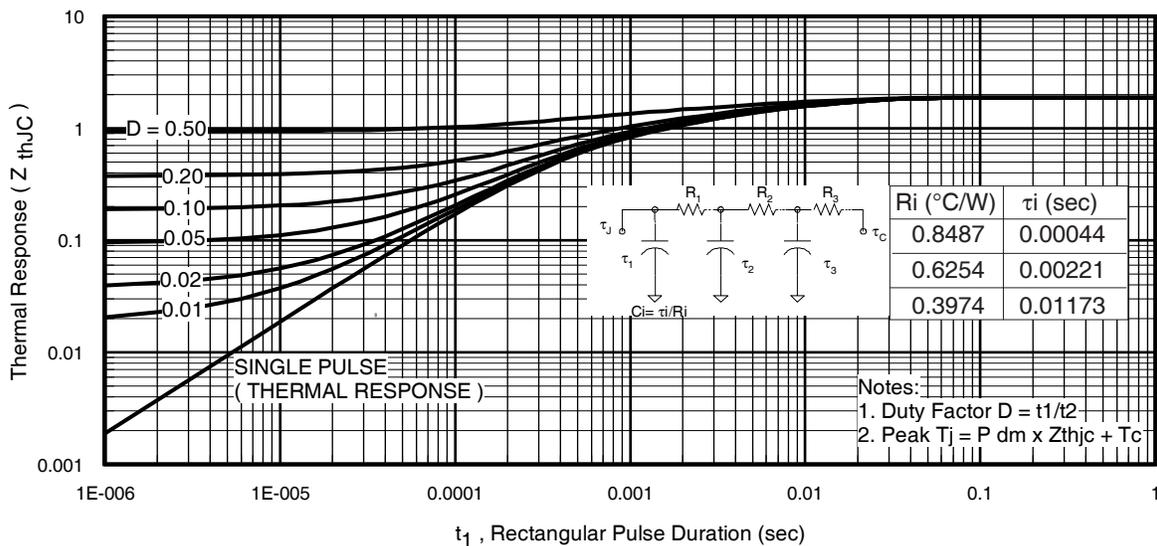
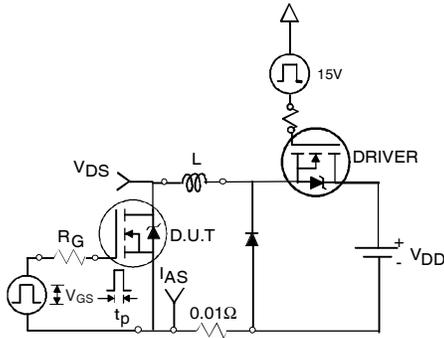

Fig 11. Maximum Effective Transient Thermal Impedance, Junction-to-Case
Fig 12a. Unclamped Inductive Test Circuit
- ① Repetitive rating; pulse width limited by max. junction temperature. (See fig. 11).
- ② Limited by T_{Jmax}; starting T_J = 25°C, L = 0.18mH, R_G = 25Ω, I_{AS} = 31A, V_{GS} = 10V. Part not recommended for use above this value.
- ③ I_{SD} ≤ 31A, di/dt ≤ 840A/μs, V_{DD} ≤ V_{(BR)DSS}, T_J ≤ 175°C.
- ④ Pulse width ≤ 1.0ms; duty cycle ≤ 2%.
- ⑤ C_{oss eff.} is a fixed capacitance that gives the same charging time as C_{oss} while V_{DS} is rising from 0 to 80% V_{DSS}.
- ⑥ Limited by T_{Jmax}, see Fig.12a, 12b, 15, 16 for typical repetitive avalanche performance.
- ⑦ This value determined from sample failure population. 100% tested to this value in production.
- ⑧ This is applied to D²Pak, when mounted on 1" square PCB (FR-4 or G-10 Material). For recommended footprint and soldering techniques refer to application note #AN-994.
- ⑨ R_θ is rated at T_J of approximately 90°C.
3. Equation below based on circuit and waveforms shown in Figures 12a, 12b.
$Z_{thJC}(D, t_{av})$ = Transient thermal resistance, see figure 11)